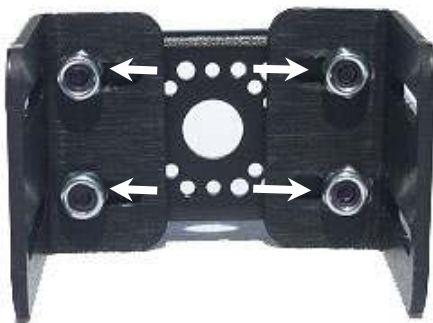

Figure 51
1. Using (4) #4 – 1/4" screws and lock nuts, install the angle brackets to the holes in the servo bracket shown in figure 51 and 52. Tighten the nuts just enough to hold the brackets in place but loose enough so they can be adjusted in the next step.